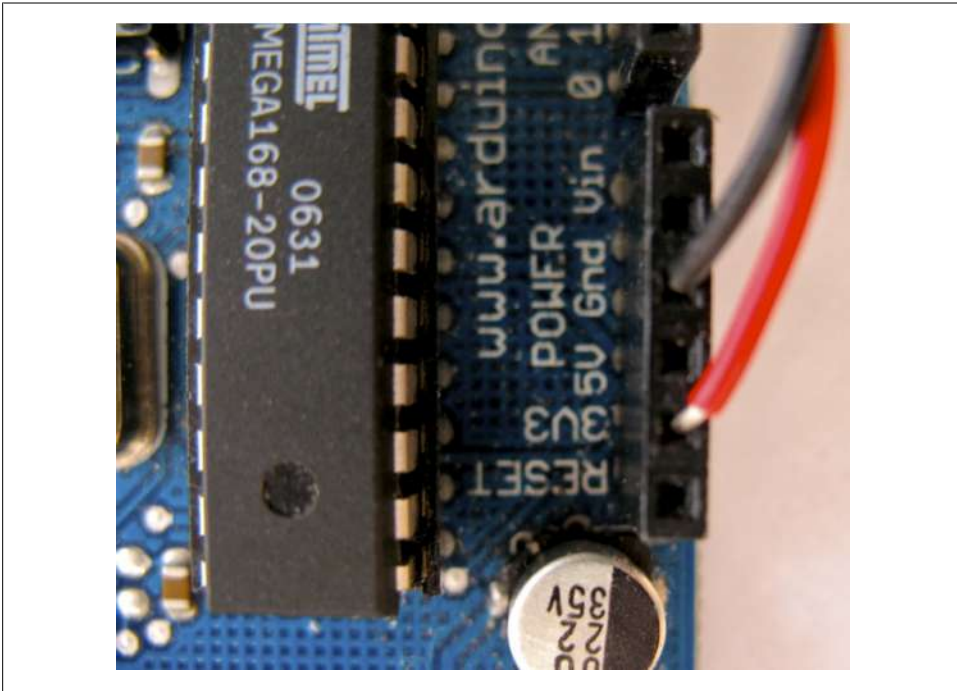

Figure 3-7. Power connections on Arduino
1. Hook up a red wire from the 3.3 V output of the Arduino to one of the power rails on the breadboard (see Figure 3-7).
2. Use red hookup wire to connect pin 1 (VCC) of the XBee to 3.3 volt power. See Figure 3-7.